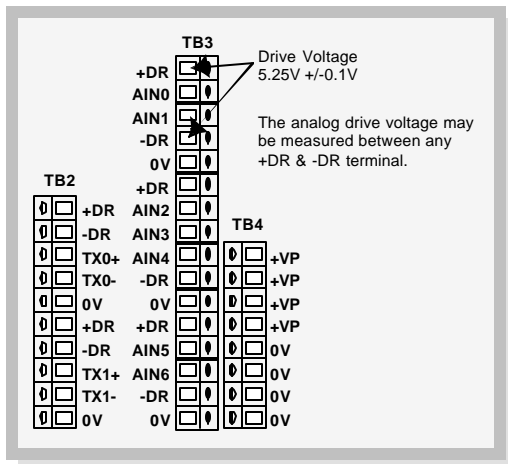

FIGURE 4.4 MEASURING THE ANALOG SENSOR DRIVE VOLTAGE
-DR in the Analog Input group. Refer to Figure 4.4. The voltage should read 5.25 ± 0.1 Volts.